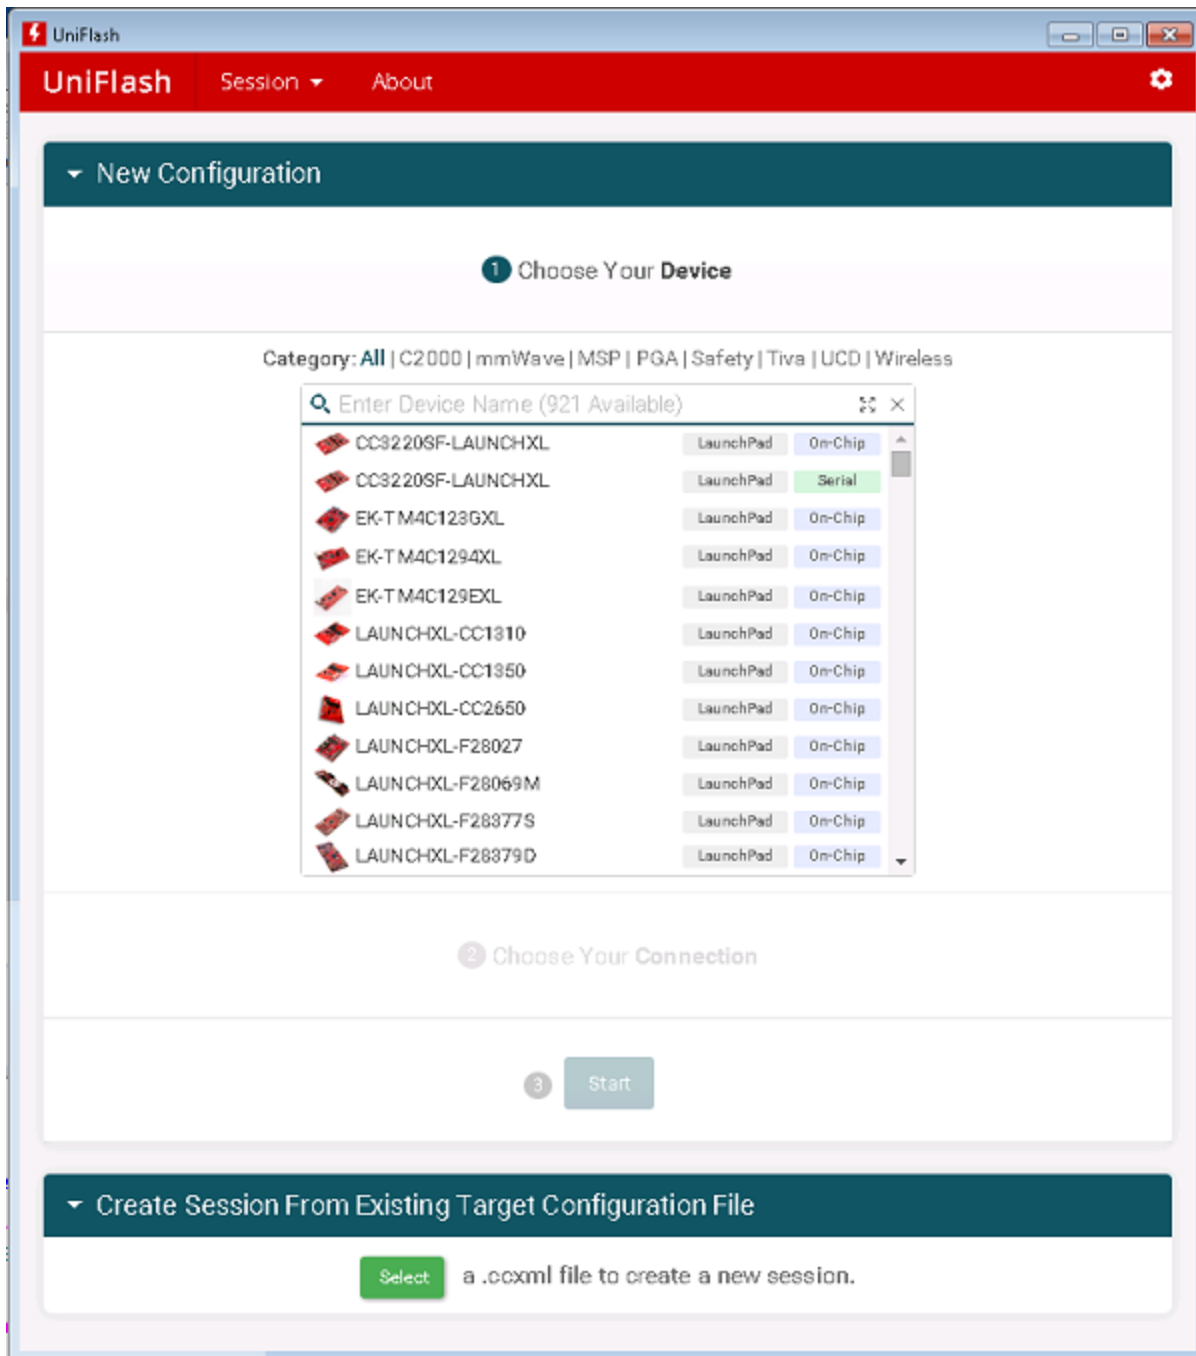

Figure 1: UniFlash Tool Device Selection Screen
- Figure 1: UniFlash Tool Device Selection Screen
- Selecting a CCXML file listed in the device listing as shown in Figure 1.
When starting the UniFlash tool (desktop or cloud version), the screen will appear as shown in Figure 1.